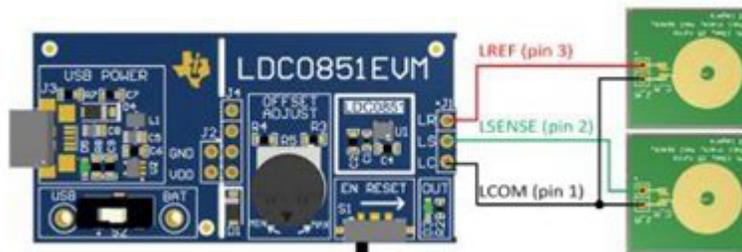

Figure 5. Connecting the Sensor Coils to the LR, LS and LC Terminals of J1
Step 3: Connect the two coils together and solder them to the LR, LS and LC terminals of the LDC0851EVM, as shown in Figure 5.